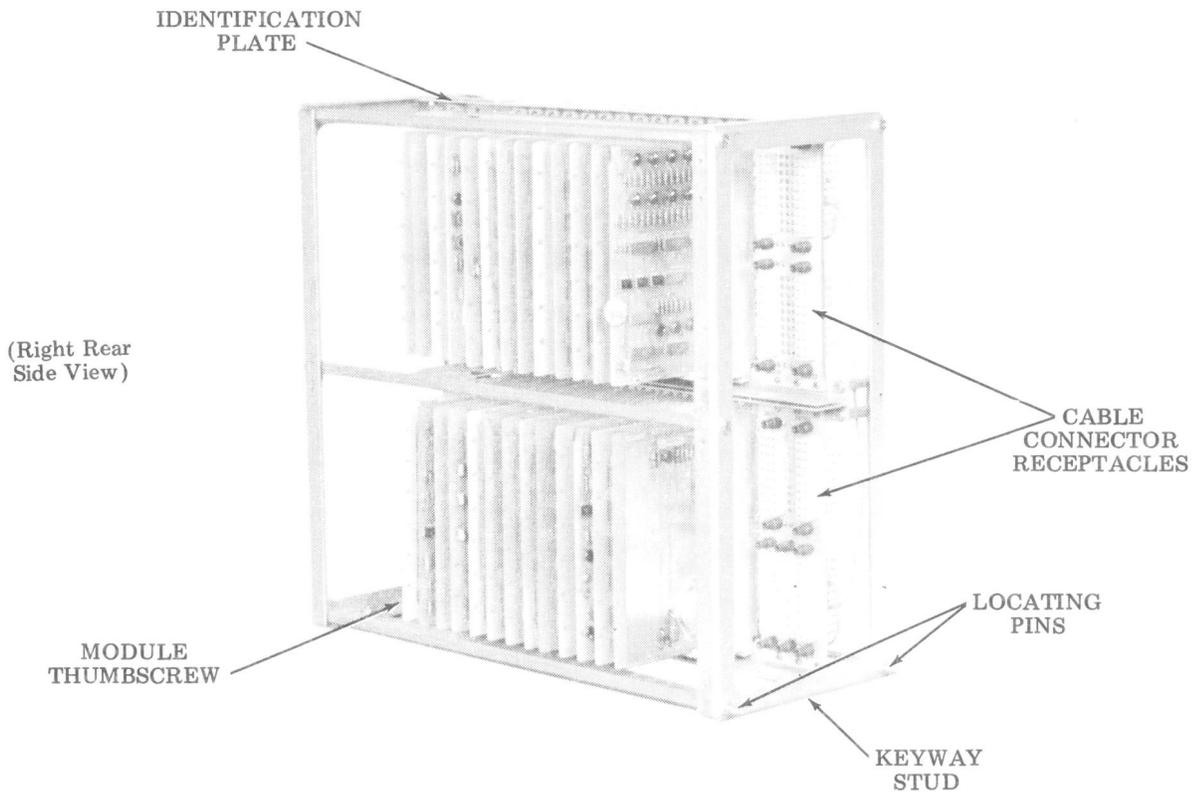
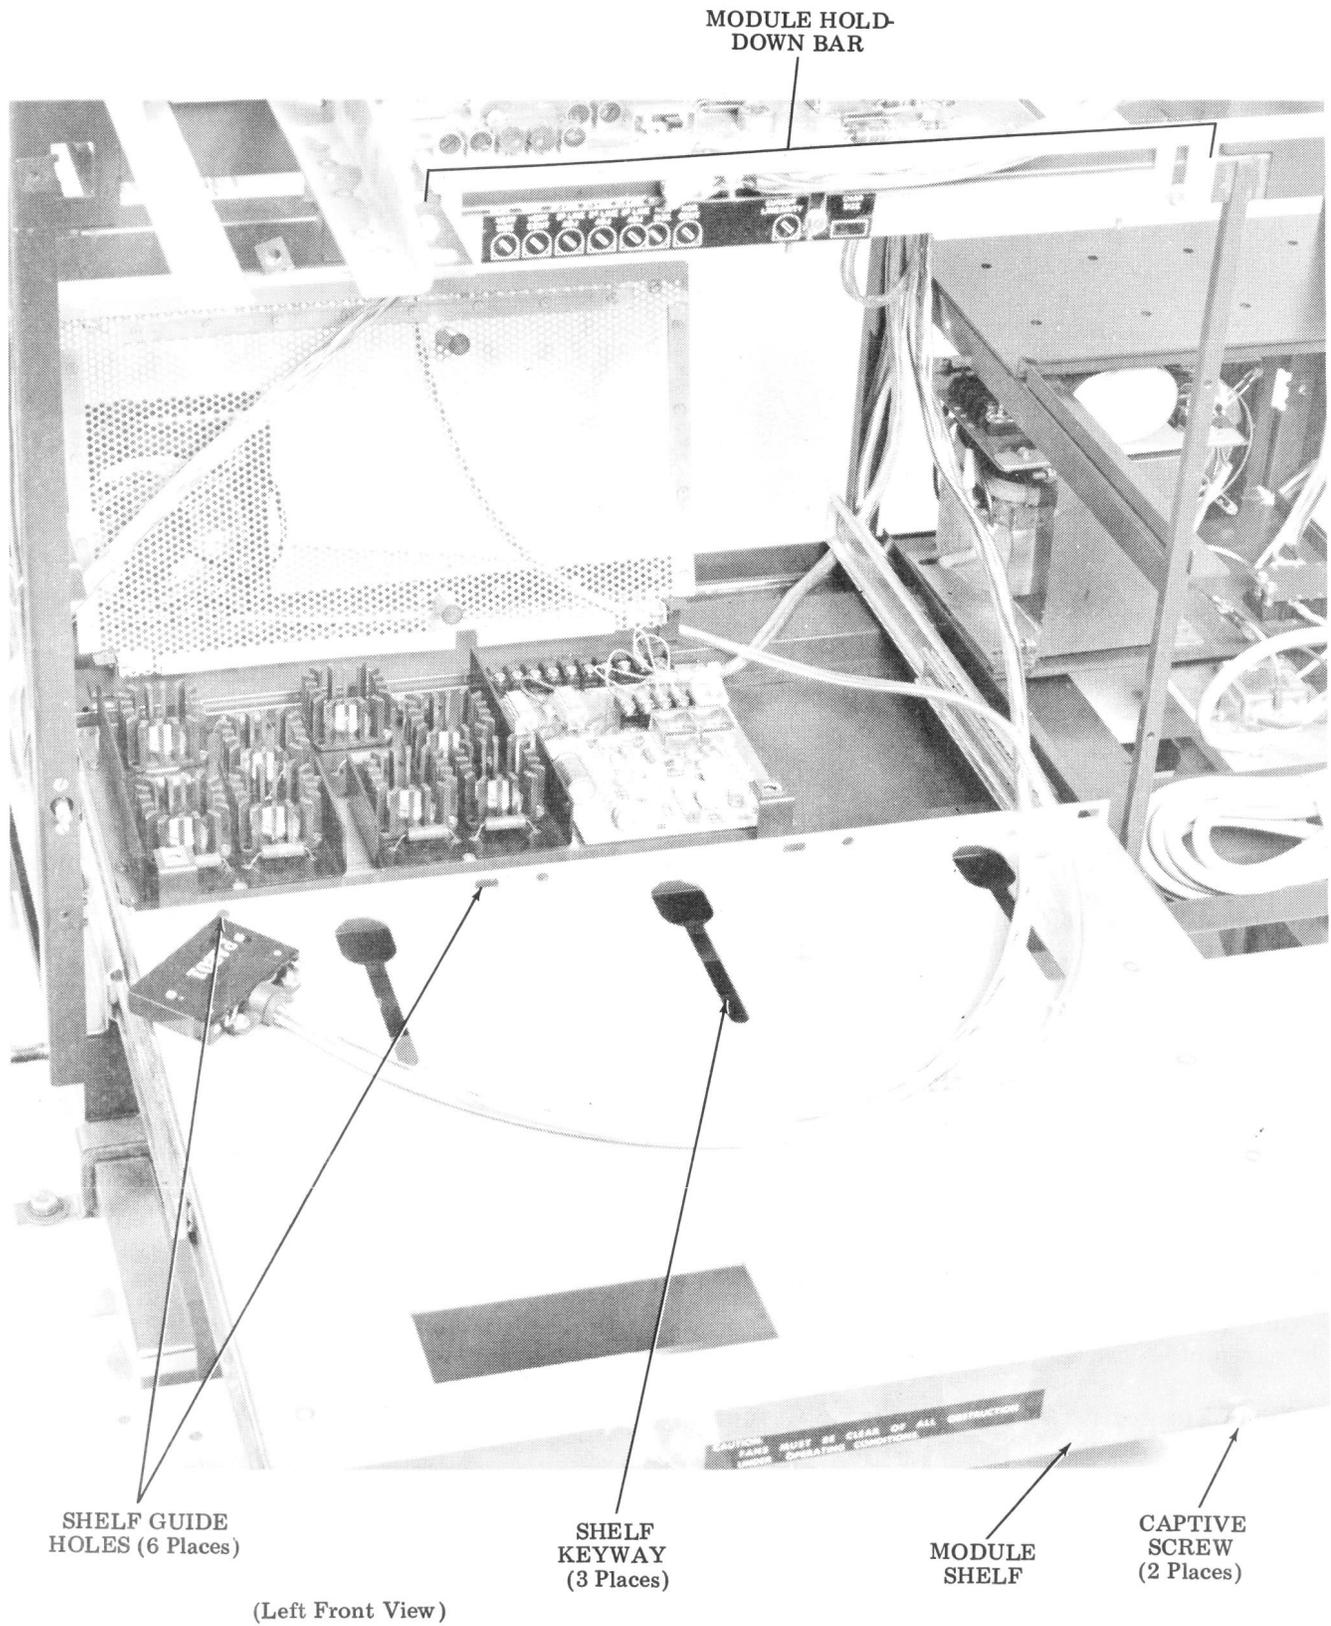

Figure 1 - Typical Interface Module
Figure 3 - Module Shelf Extended
3.01 Visual inspection should be as follows (Figure 1):
- 4.02 Loosen the three screws that secure the module hold-down bar (Figure 3). Slide the bar upward and retighten screws. If the set is not going to be moved, or if the modules are removed frequently, the hold-down bar may be left in this position.
- 4.03 Loosen the two captive screws on the front of the module shelf. Pull the shelf out to its extended position (Figure 3). Place the module on the shelf in its proper position.
- 4.04 Align the locating pins (Figure 1) and shelf keyway stud (in the lower rear of the module) into their proper holes. Move the module to the rear of the shelf until the locating pins are protruding through the shelf guide holes (Figure 3), and the module frame is seated squarely against the rear flange of the shelf.
- 4.05 Connect the proper interconnecting cables to the module. Tighten the module thumbscrew located in the front bottom frame of the module securing the module to the shelf (Figure 1).